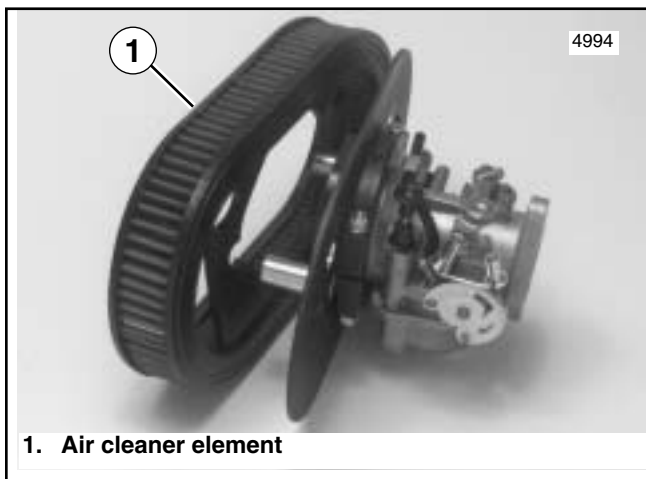

Figure 7. Air Cleaner Element and Backplate
13. See Figure 7. Place air cleaner element (1) over air cleaner cover spacers. Install air cleaner cover washers and screws. Tighten screws.